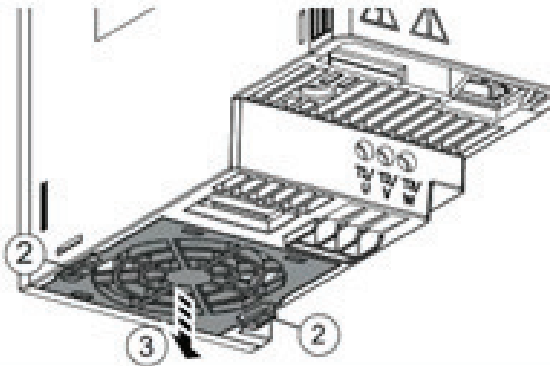

Fig. 57 — Remove ACH180 Cooling Fan
2. Remove the module cooling fan(s). See Fig. 57.